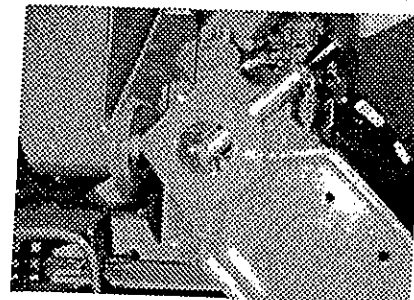

fig. 13
- rotate the outrigger ram in down direction, re-insert the locking pin in the new seat (fig.13) and lock it with the security pin.